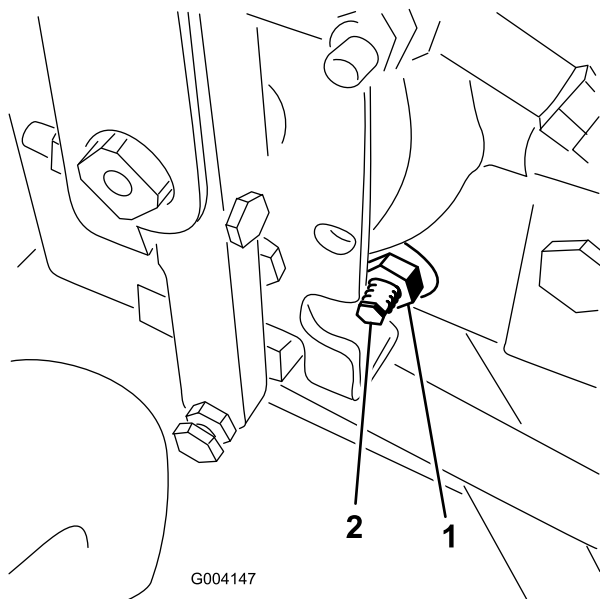

Figure 69
4. On the right side of the hydrostat, loosen the locknut on the traction adjustment cam (Figure 69).